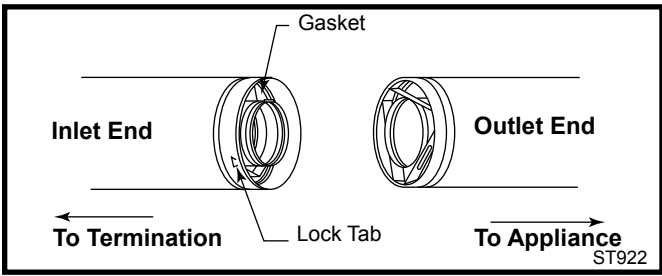

Figure 33 Joint connection.
2. Remove soil to a depth of approximately 16" (400mm) below the base of the snorkel. Install a window well (not supplied). Refill the hole with 12" (305mm) of coarse gravel and maintain a clearance of at least 4" (102 mm) below the snorkel. (Figure 33)
The pipe and elbows are assembled by inserting the outlet (male) end of a length of pipe or elbow into the inlet (female) end of an adjacent length of pipe or elbow. Make sure the outlet end is fully seated within the inlet end of the adjoining section and the gasket, located on the inner liner of the inlet section is fully enclosed by the inner liner of the outlet of the adjoining section. Push in the Lock Tab such that it becomes seated within the inward groove of the adjoining section. This locks the joint in place. (Figure 33)